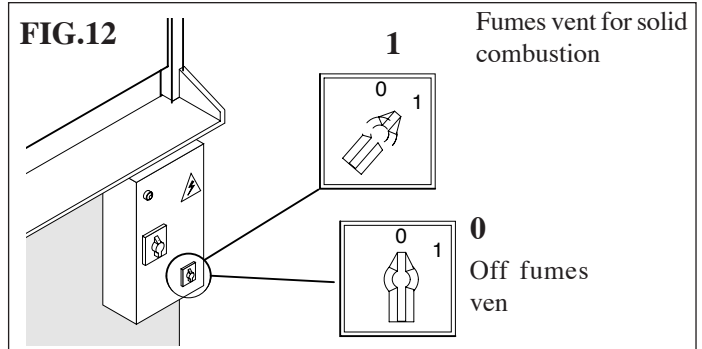

FIG.12
Turn on the fumes vent by pressing its button (fig.12 pos.1).